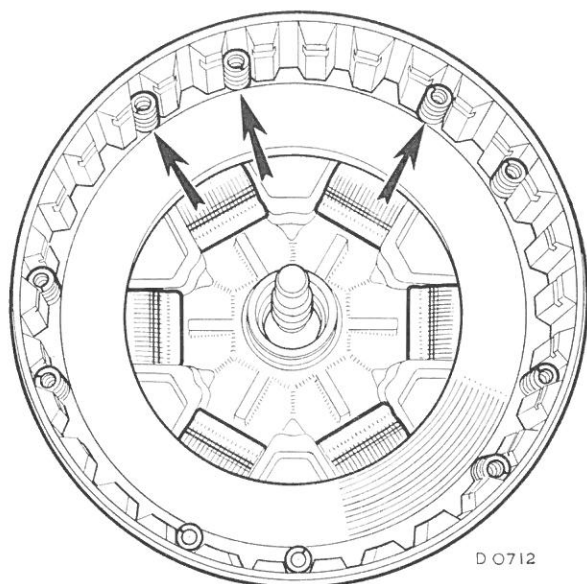

Fig. Fa.34
- (9) Assemble the toggles, pressure plate and the piston return springs as shown in Fig. Fa.34.